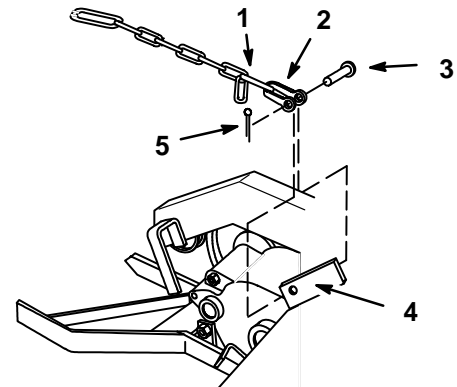

Figure 3
6. Attach lift chain, short link end, one link short, to lift bracket with clevis, clevis pin and secure with $3/4$ " cotter pin (Fig. 3).